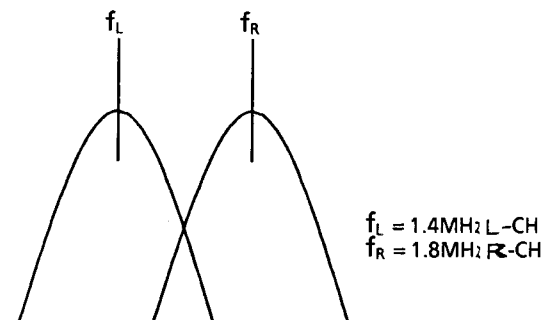

Figure 2-9.
2. Observe TP6501 signal by the spectrum-analyser, and adjust R6506 [R6503] so that the spectrum-analyser reads $1.4\text{MHz} \pm 5\text{kHz}$ ($1.8\text{MHz} \pm 5\text{kHz}$), as shown in Figure 2-9.